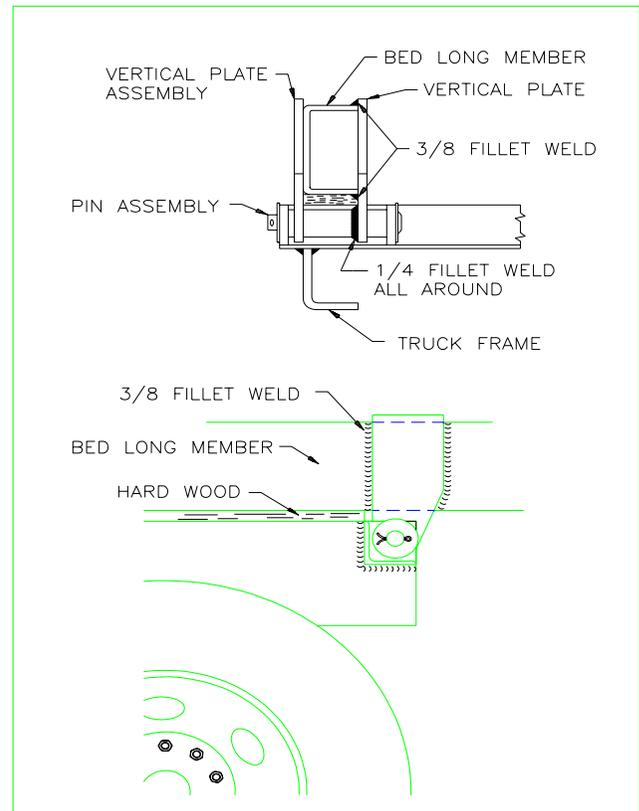

Figure 11: Vertical Plate Assembly
9. Lower the truck bed onto the truck frame, positioning it exactly as it will be mounted when lowered. Weld the vertical plate assembly of the tail hinge to the long member of the bed with the pin inserted in the tail hinge assembly (see Figure 11). Insure that the vertical plate assemblies are installed correctly as shown. It may be necessary to install some washers as spacers between the pin bushings and the vertical plates to help center the body and keep it from moving from side to side.